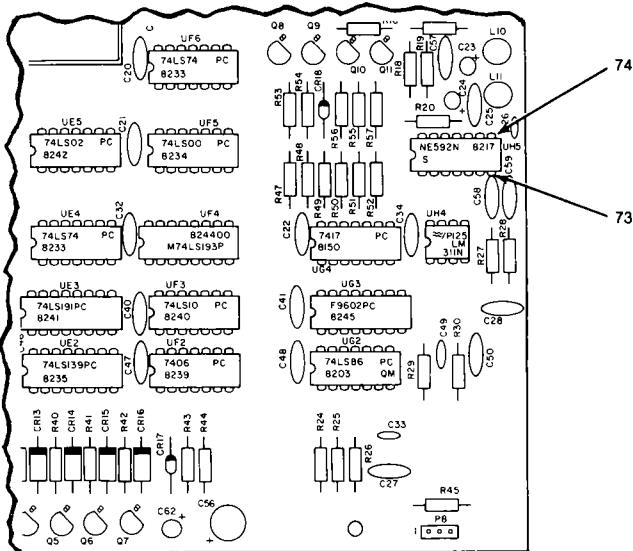
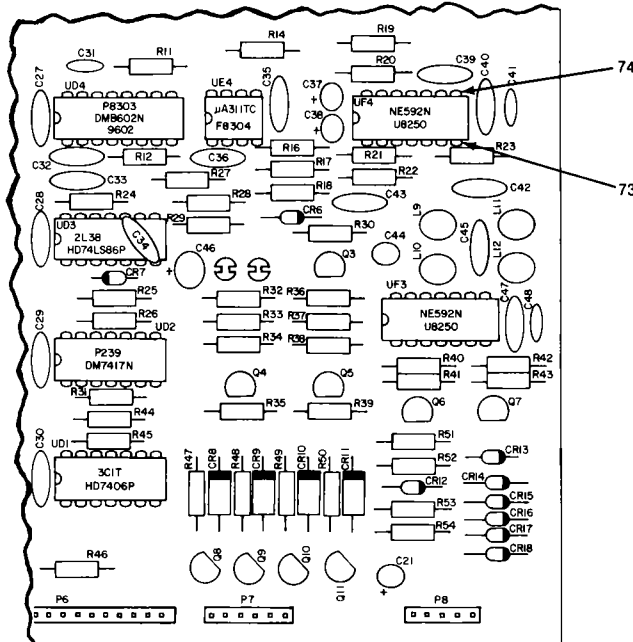

Fig. 3-13. Location of second video amplifier output pins, Model 1540.
Fig. 3-14. Location of second video amplifier output pins, Models 1541 and 1542.
6. Connect the video detector (see Appendix B) to the second video amp. (See Fig. 3-13 for the 1540 or Fig. 3-14 for the 1541 and 1542.) Connect the black lead to pin 7 (Item 73) and the red lead to pin 8 (Item 74). Connect the other end of the video detector to the voltmeter.